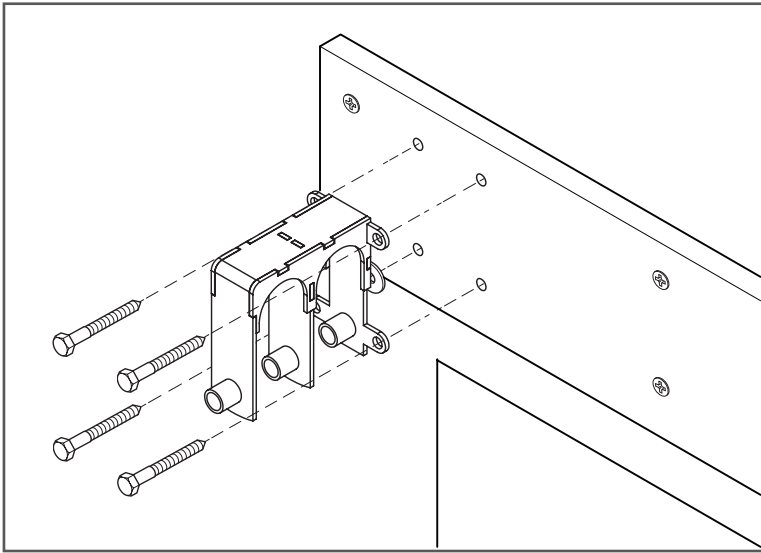

Figure 9
10. Install brackets (A.) with a socket wrench using lag screws (B.) (Figure 9).